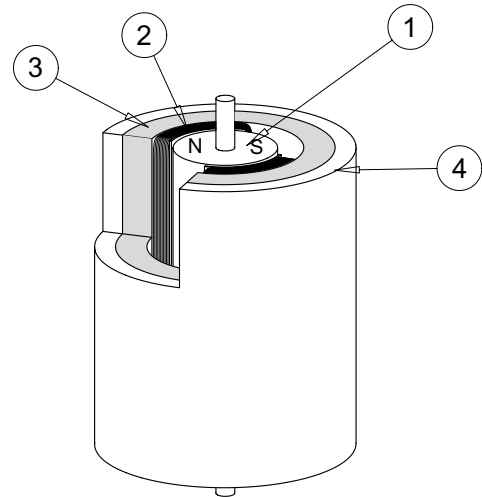

Fig. 5: Technical realisation of a moving magnet scanner
In the arrangement of Fig. 5 a cylindric permanent magnet (1) is used. Since the inertia of a solid cylinder is given by: